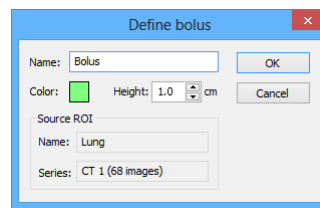

Figure 259 – Define bolus dialog
3. The **Define bolus** dialog (see Figure 259) is then displayed in which you carry out the following: